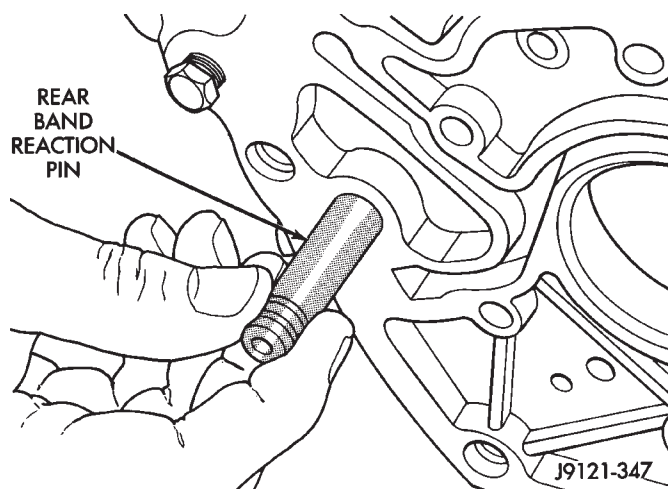

Fig. 145 Installing Rear Band Reaction Pin
(7) Verify that non-threaded hole in clutch cam is properly aligned. Check alignment by threading a bolt into each bolt hole. Adjust clutch cam position if necessary.
(8) Install and tighten overrunning clutch cam bolts to 17 N•m (13 ft. lbs.) torque. Note that clutch cam bolts are shorter than piston retainer bolts.
(9) Lubricate clutch cam rollers with transmission fluid.
(10) Install rear band reaction pin (Fig. 145). Be sure pin is fully seated in case.